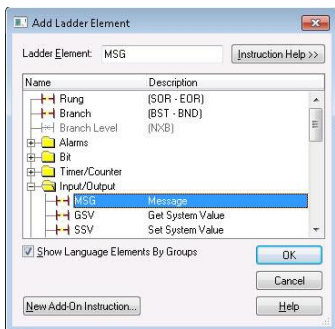

Figure 28: Adding a MSG Instruction
- Select the "MSG" instruction in the Input/Output folder. Refer to Figure 28.